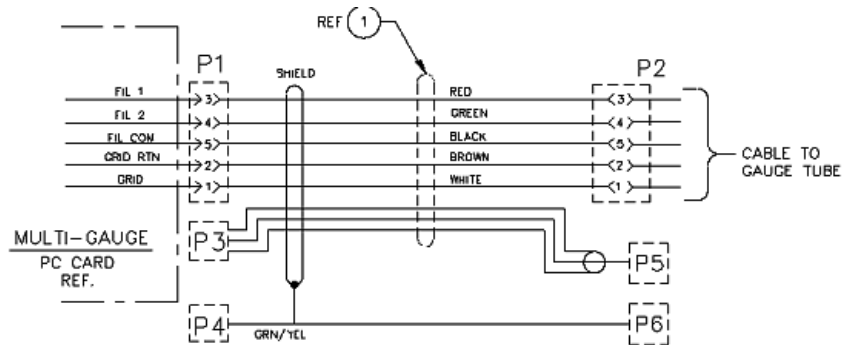

Figure 9: B/A and UHV Extension Wiring
1. Wire the connectors as in Figure 9: B/A and UHV Extension Wiring.